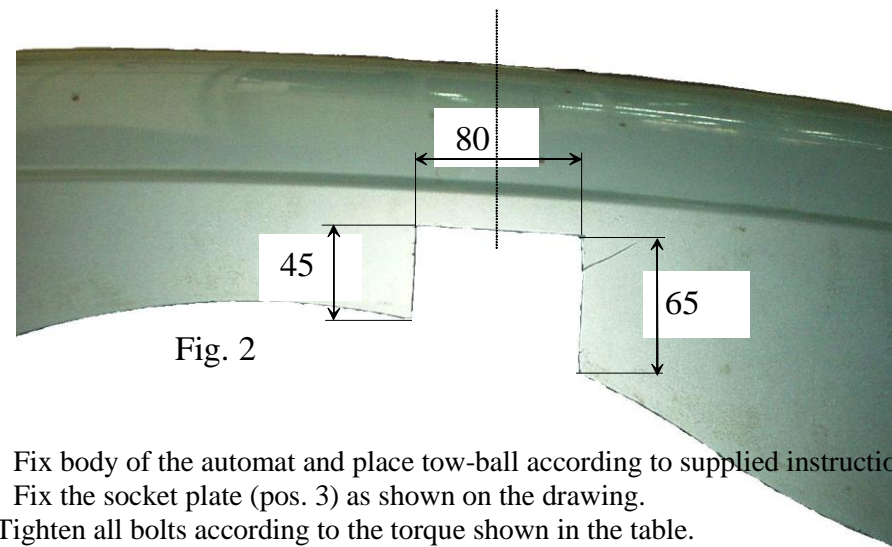

Fig. 2
3. To uncovered holes put special nuts „Caget nut” (pos.12).
4. Put mian bar of the towbar in this way, so towbar’s holes agree with caget nut, fix by M10x35mm bolts (pos. 8) as shown on the drawing (loosely).
5. Fix side brackets pos. 4, 5 and flat bar pos. 6 .
6. Cut the bumper according to the fig. 2 and then reassemble it.